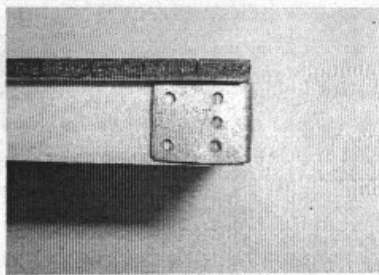

Figure 4
- 5) Next, glue the corner braces on the car with ca cement (super glue). (fig 4)